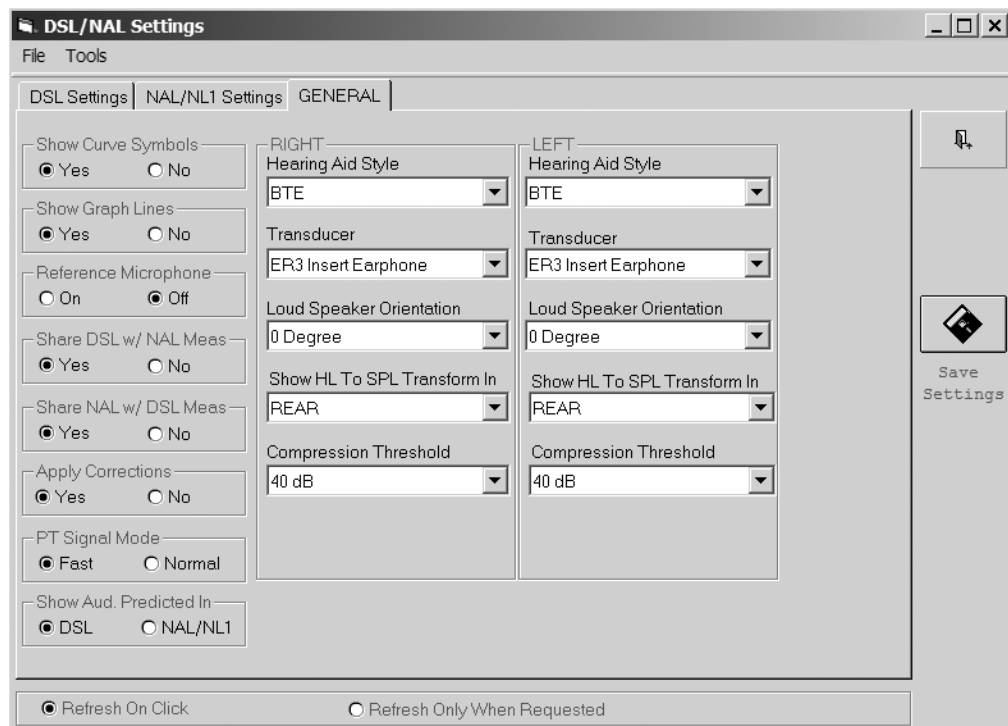

Figure 6.1.6: Settings window
Enter the DSL/NAL-NL1 Settings window by clicking the **Settings** button. See Figure 6.1.6. In this window, you can set many of the parameters used in the DSL and NAL-NL1 fitting formulas.
1. Click **Settings** to open the Settings window. See Figure 6.1.6.